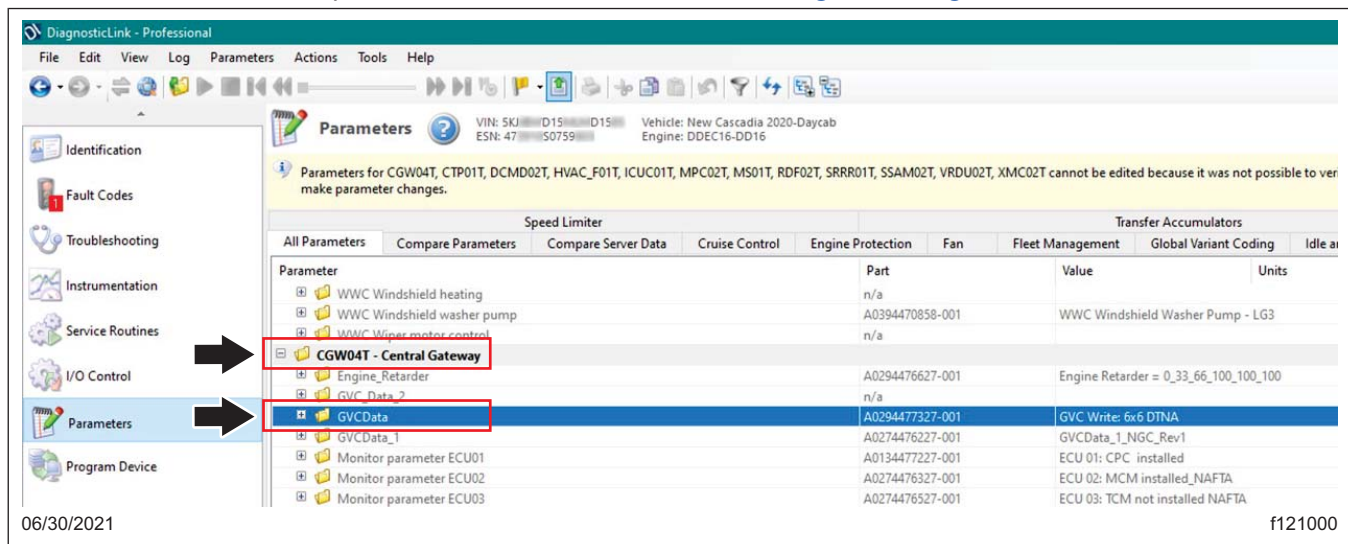
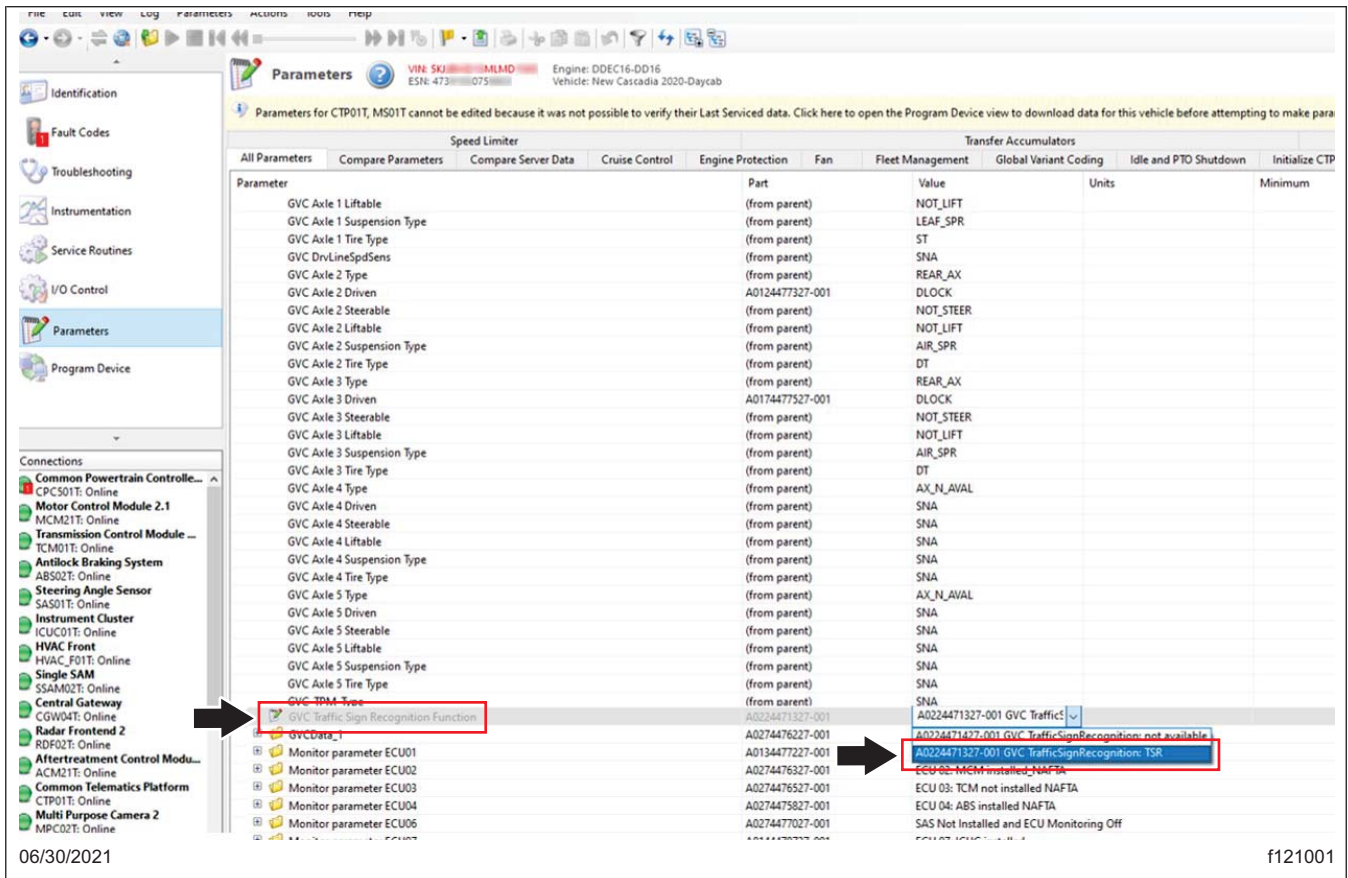

Fig. 4, GVC Data Folder Location
Fig. 5, GVC Traffic Sign Recognition Function Parameter Screen
- After the server download is complete, go to the 'Parameters' tab, 'CGW04T - Central Gateway,' 'GVC Data,' 'GVC Traffic Sign Recognition Function,' then select 'A0224471327-001 GVC TrafficSignRecognition:TSR' from the drop-down list in the 'Value' column. See Fig. 4 and Fig. 5.